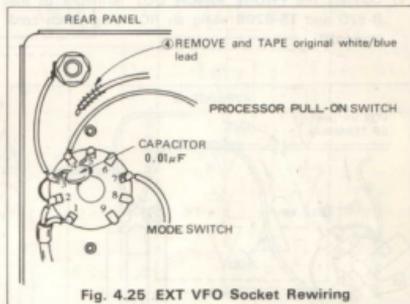

Fig. 4.25 EXT VFO Socket Rewiring
6. Remove the white/blue lead from pin "4" of the EXT-VFO socket and tape insulate its end. Solder the supplied 0.01 μ F capacitor to the EXT-VFO socket, pins "3" and "5". Solder a jumper between pins "2" and "3". Solder the new leads from the PROCESSOR switch to EXT-VFO pin "4", and from the MODE switch to pin "7" (Fig. 4-25).